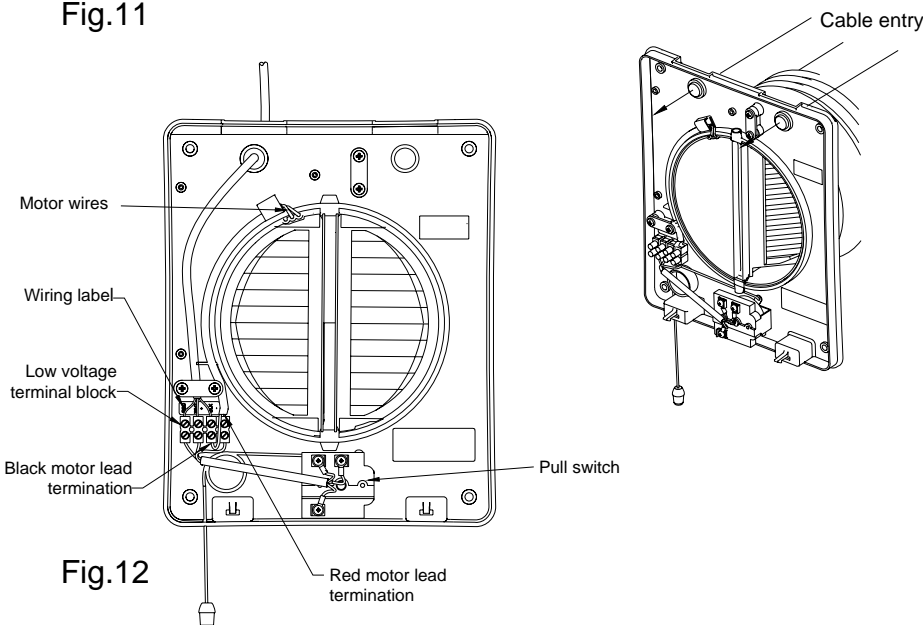

Fig.12
7. Pass the low voltage cable through the cable entry grommet at the top of the unit (Fig. 12).